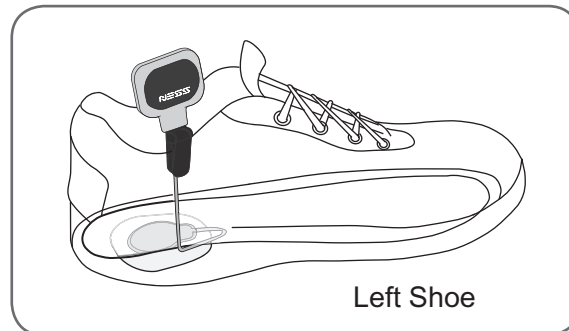

Figure 7-11: Intelli-Sense Gait Sensor correctly positioned.
3. Lower the insole. Tuck any excess wire under the insole. See Figure 7-11.